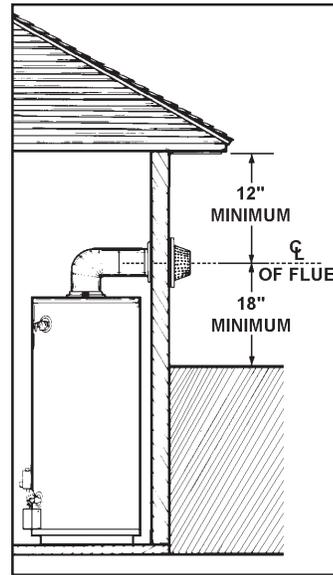

FIGURE 4
**MAKE CERTAIN TO OBSERVE VENT LOCATION LIMITATION, SEE FIGURES 4 & 5.**
- 18" minimum from the ground and 12" from ceiling overhangs, see Figure 4.